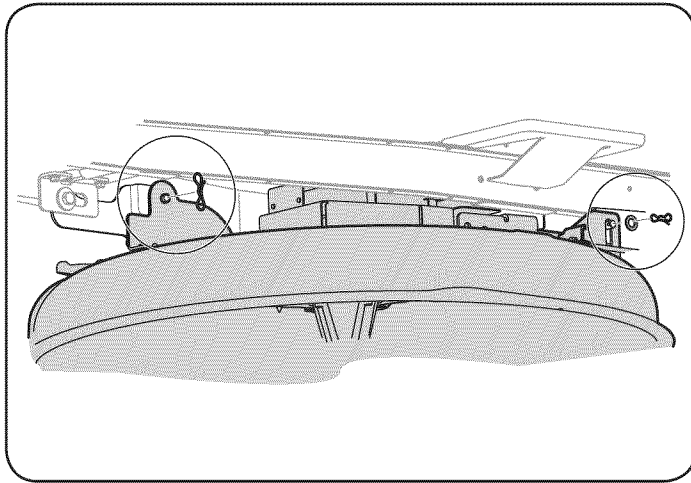

Figure 35
5. Remove the remaining bow-tie cotter pins securing the deck to the unit, as shown in Figure 35.